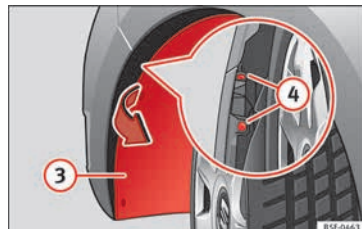

Fig. 113 Fog light: access to the connector and to the light bulb holder.
- Pull the wheel housing (3) » Fig. 113 access the 2 hidden screws (4) » Fig. 113 of the bumper.